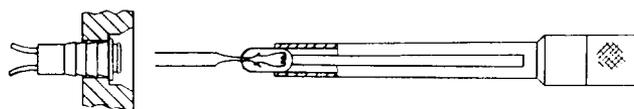
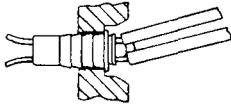

Fig. 5—New Lamp Inserted in Spring End of Tool
Fig. 6—Removing Tool From Installed Lamp
**3.03** To insert a new lamp, place glass envelope in the tool (Fig. 5). Insert lamp in base and withdraw tool by moving tool to one side, as shown in Fig. 6. Use tool to replace cap, reversing procedure in 3.01.